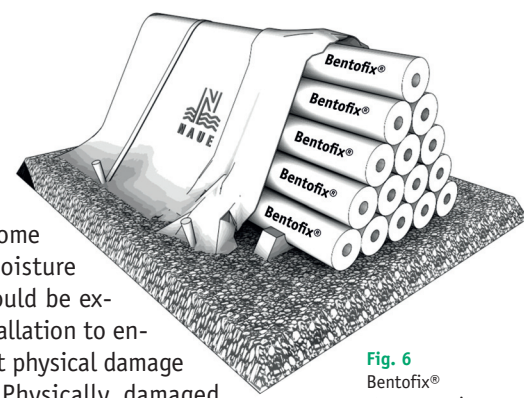

Fig. 6
9.4 Bentofix® GCLs can be stacked up to five rolls high if stored on site (fig. 6). It must be ensured that rolls cannot move at any time once stacked and stored. If rolls need to be stacked higher please contact NAUE or their representative.